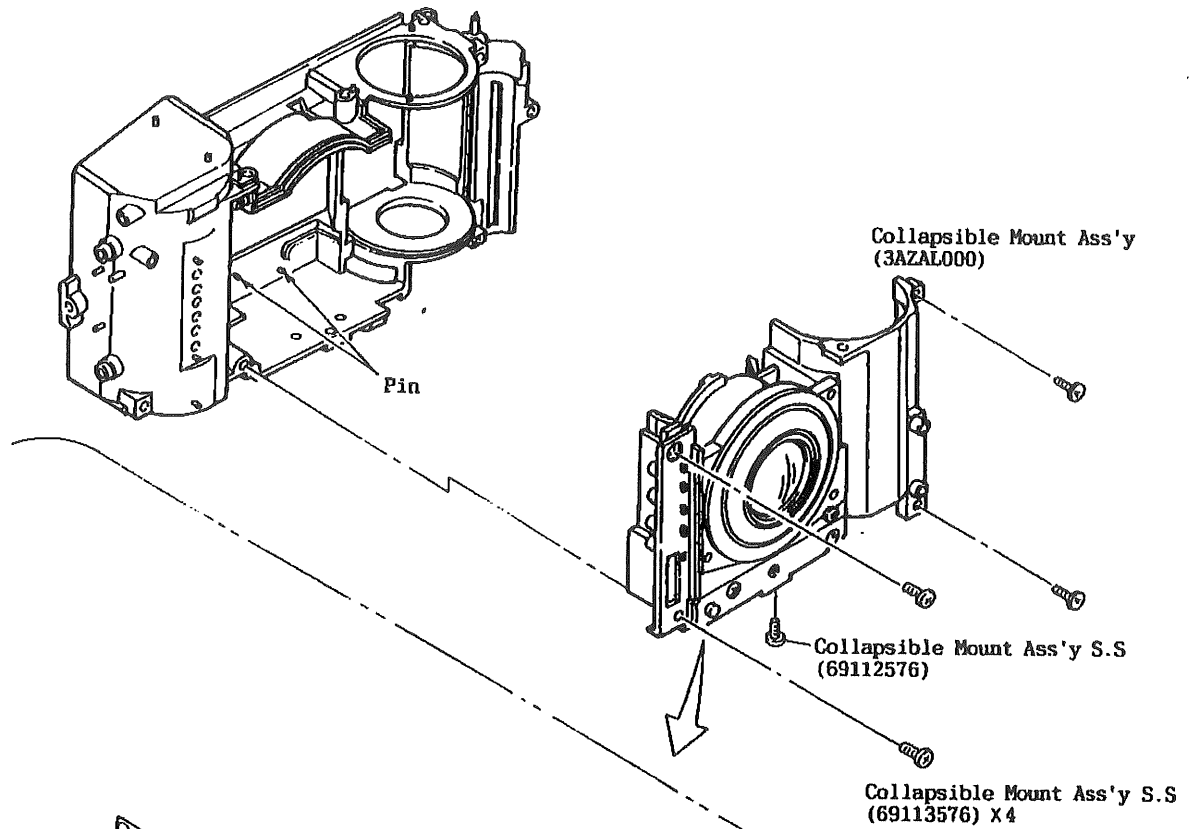
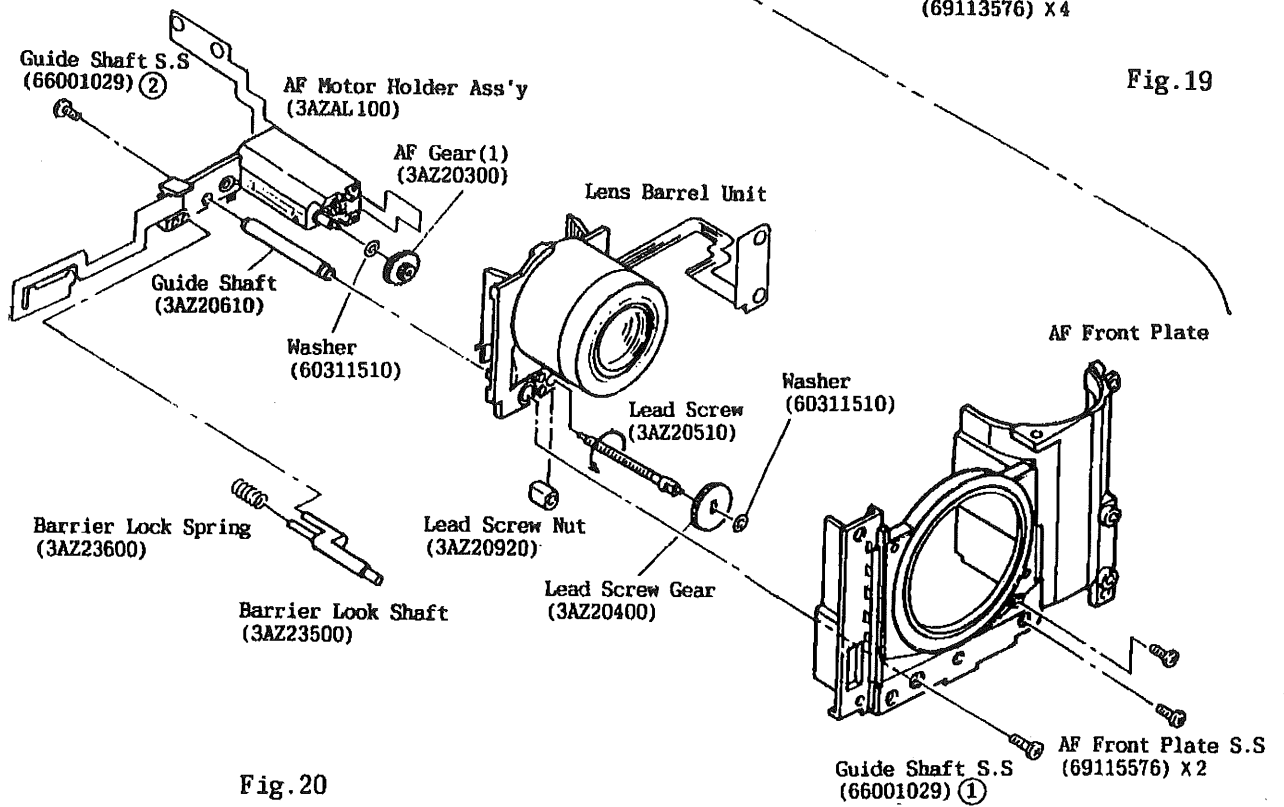

Fig. 19
Fig. 20
B-5-1 Removal of Collapsible Mount Ass'y (See Fig.19)
- b) When installing the Collapsible Mount Ass'y, fit the two holes (See Fig.20) in the Motor Holder to the two pins (See Fig.19) of the Body.
B-5-2 Disassembly of Collapsible Mount Ass'y (See Fig.20)